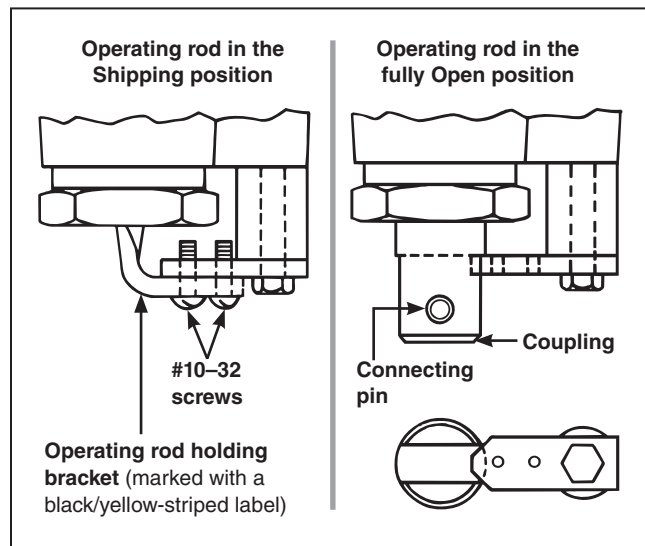

Figure 14. Preparing the interrupter for attachment to the insulating support column.
- (a) Remove and discard the two #10–32 screws that connect the operating rod holding bracket (marked with a black/yellow-striped label) for shipment. See Figure 14.
- (b) Pull the holding bracket to move the operating rod to its fully **Open** position. See Figure 14.
- (c) Remove the connecting pin used to attach the holding bracket to the coupling. Retain the connecting pin for re-use in Step 3(f) on page 15. See Figure 14. Discard the holding brackets.